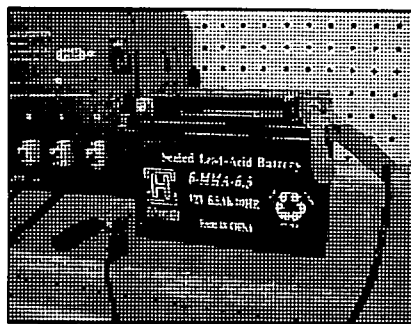

FIGURE 24
- 1 Connect the red positive (+) cable to the red positive (+) pole of the battery. (see figure 24)